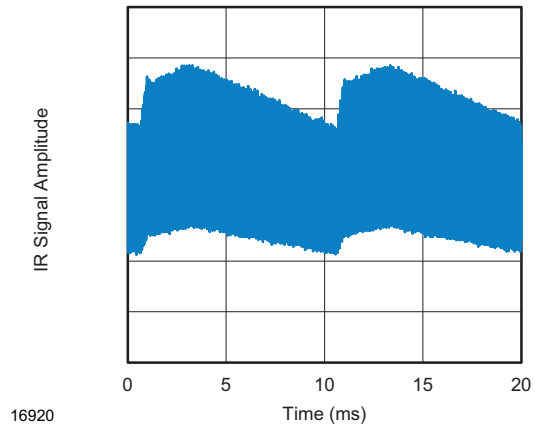

Fig. 13 - IR Signal from Fluorescent Lamp With Low Modulation
- Strongly or weakly modulated patterns from fluorescent lamps with electronic ballasts (see Fig. 13 or Fig. 14)
| Suppression of interference from fluorescent lamps | Mild disturbance patterns are suppressed (example: signal pattern of Fig. 13) | Complex disturbance patterns are suppressed (example: signal pattern of Fig. 14) | Critical disturbance patterns are suppressed, e.g. highly dimmed LCDs |